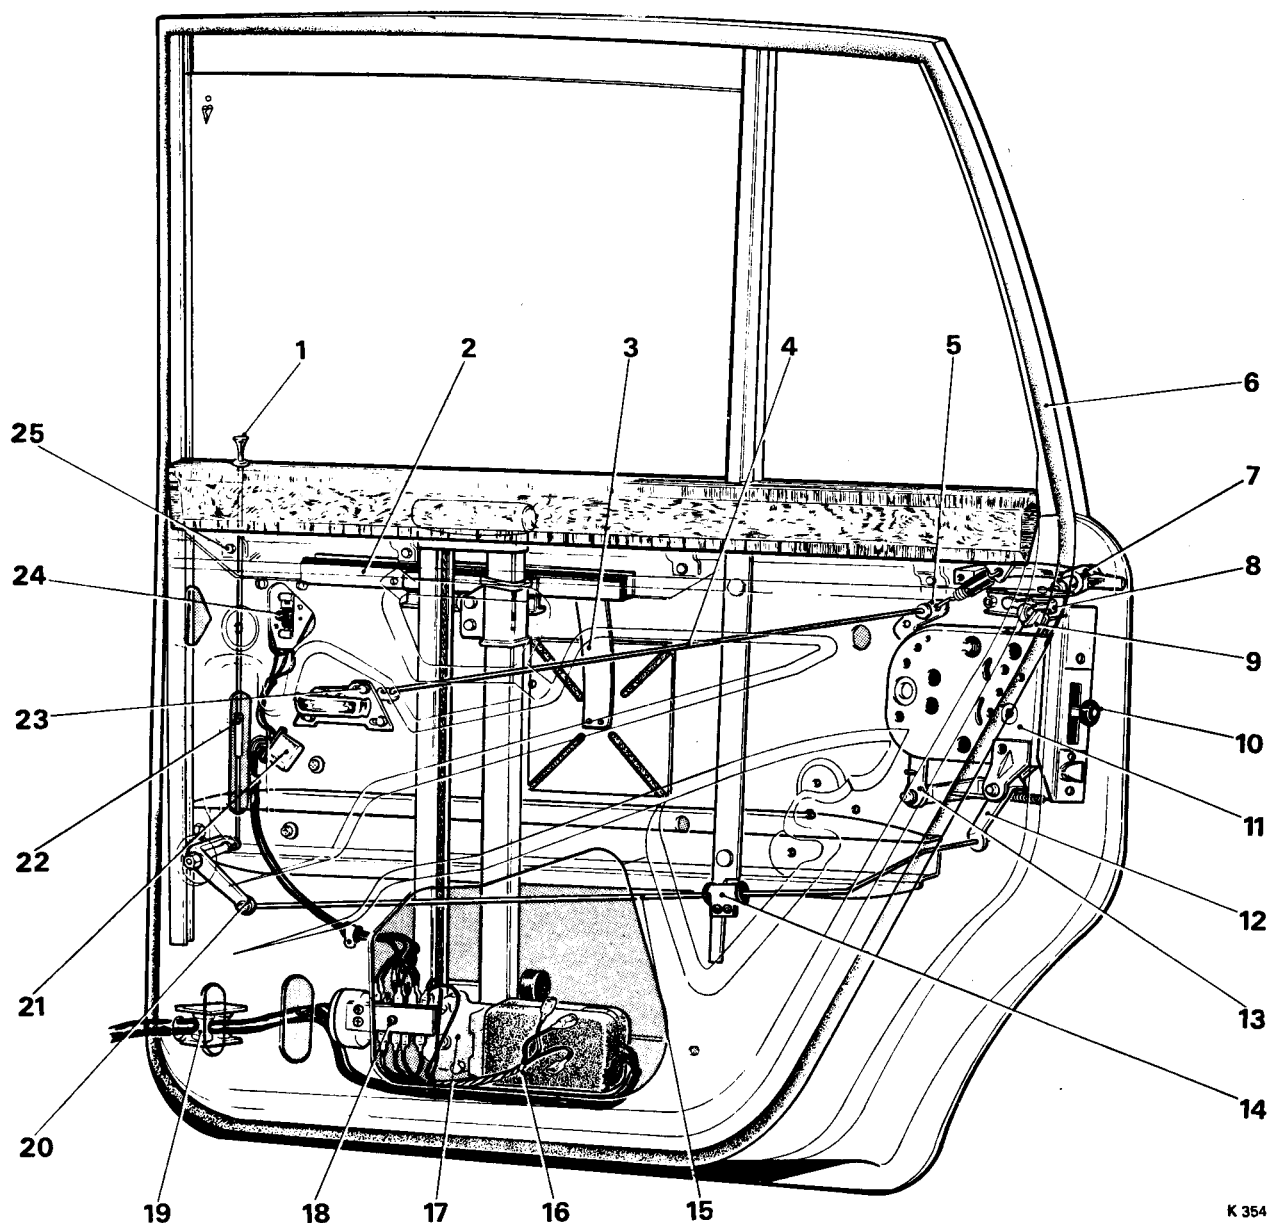

FIG. S21 TYPICAL CONSTRUCTION OF A REAR DOOR (4-Door Saloon and Long Wheelbase Cars prior to Car Serial Number 9000 with rod operated sill lock button)
(see Fig. S21)
Cars fitted with rod operated sill lock buttons (see Figs. S21 and S24).
3. Remove the window lift mechanism by following the same procedure described for removing the window lift mechanism from a front door and by reference to Figure S21.